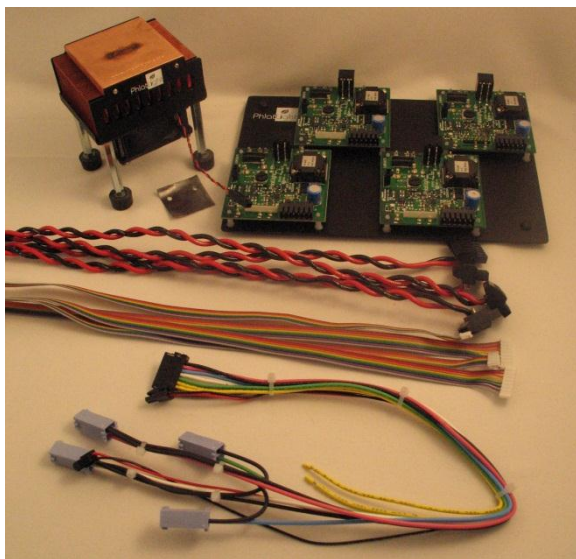
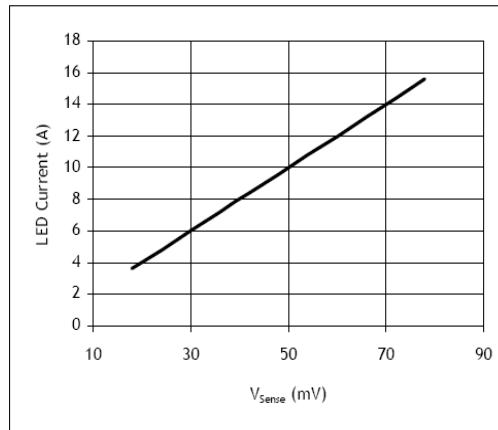

Figure 1: DK-414N-4 Development Kit Contents
Figure 11: LED Current as a function of V_{sense}
The DK-414N-4 Development Kit includes the following components, as shown in Figure 1:
- Use the jumper provided with the driver board to short signal pins 2 and 3 (see Figure 1 and Table 5). These pins correspond to Analog ADJ and POT; shorting them enables the on-board potentiometer. Alternatively, the jumper can be removed and signal cable can be used to short the Analog ADJ and POT pins.
2. To determine the current through the LED, measure the voltage across the sense resistor test studs placed to the left and right of “R9” (see Figure 1). Figure 11 shows the relationship between the sense resistor voltage (V_{sense}) and the LED current, I_{LED} , which is also calculated using: